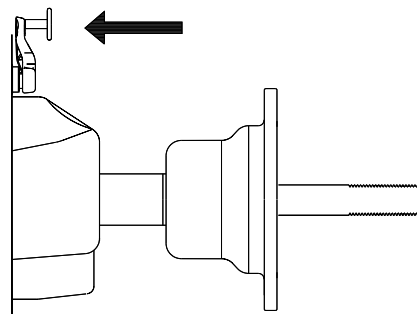

Figure 40
1. Make sure the Rim Offset Gauge Arm is at home position and no wheel is mounted to the shaft as shown in Figure 40.